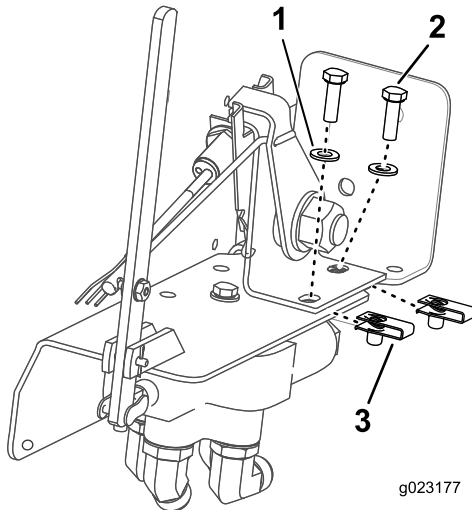

Figure 14
- Secure the switch assembly to the bracket using the 2 bolts (5/16 inch), 2 washers (5/16 inch), and 2 U-nuts (5/16 inch) (Figure 14).